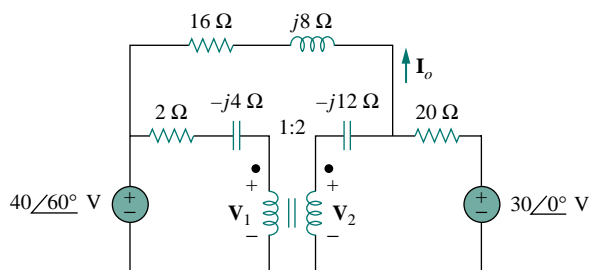

Figure 13.126 For Prob. 13.63.
- 13.63** Use *PSpice* to find V_1 , V_2 , and I_o in the circuit of Fig. 13.126.